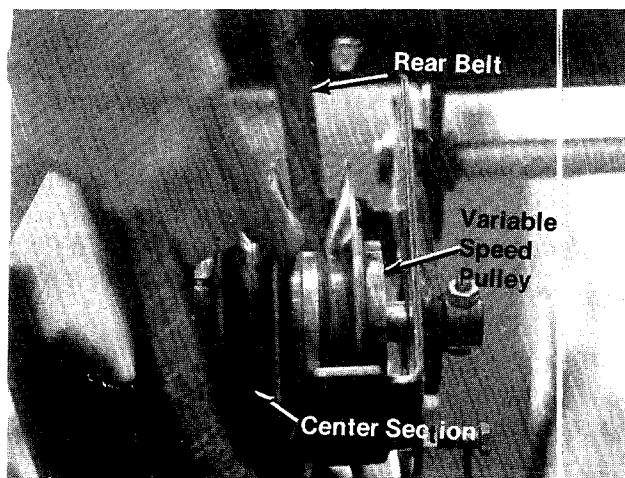

FIGURE 28.
9. Slide the center section of the variable speed pulley towards the right side of the tractor and remove the front belt. See figure 28.